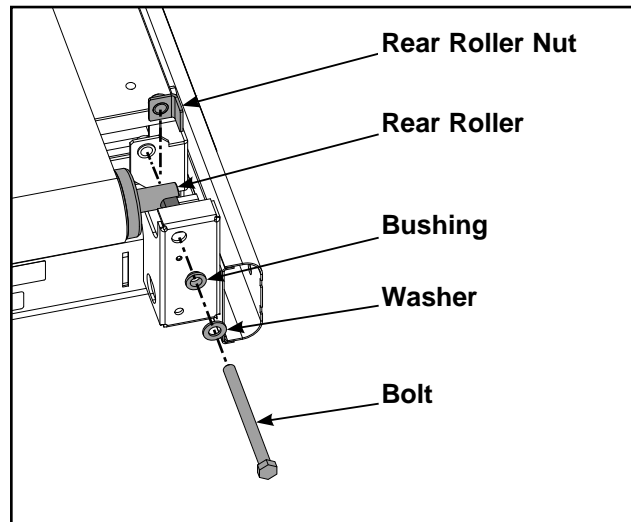

Figure 11
- A. Using a 3/4" Socket wrench, remove the two rear roller bolts, washers, bushing and rear roller nut (one roller bolt on each side). **NOTE:** Loosen each bolt evenly, making sure not to loosen either bolt too many turns before moving to the other bolt. See Figure 11.
- B. Install the bolt, washer, bushing and rear roller nut for each side of the roller into position. See Figure 11.
- C. Using a 3/4" Socket wrench, tighten the two rear roller bolts, washers, bushing and rear roller nut (one roller bolt on each side). **NOTE:** *Tighten each bolt evenly, making sure not to tighten either bolt too many turns before moving to the other bolt.* See Figure 11.